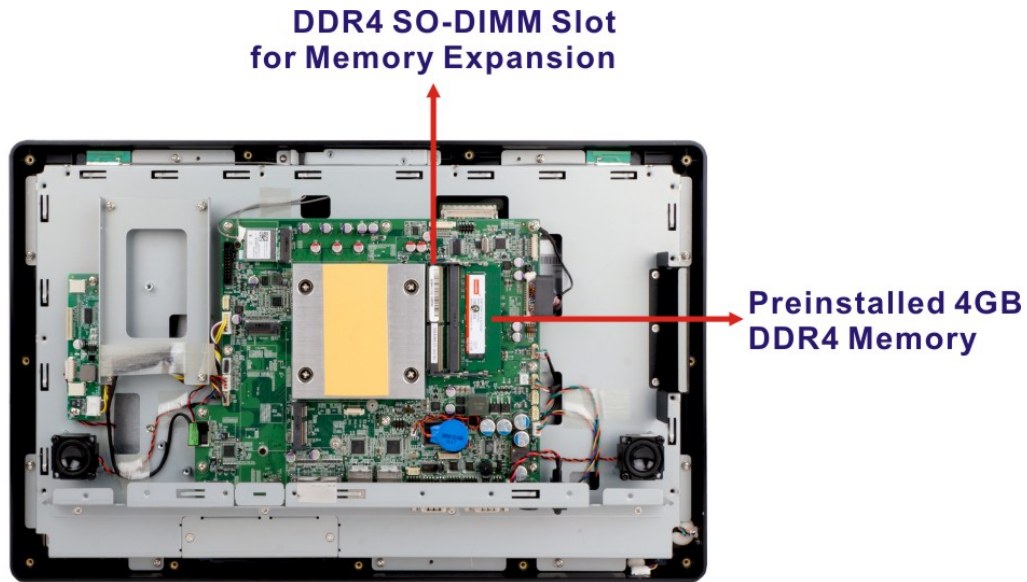

Figure 5-1: SO-DIMM module Location
Step 4: Locate the SO-DIMM module (**Figure 5-1**).